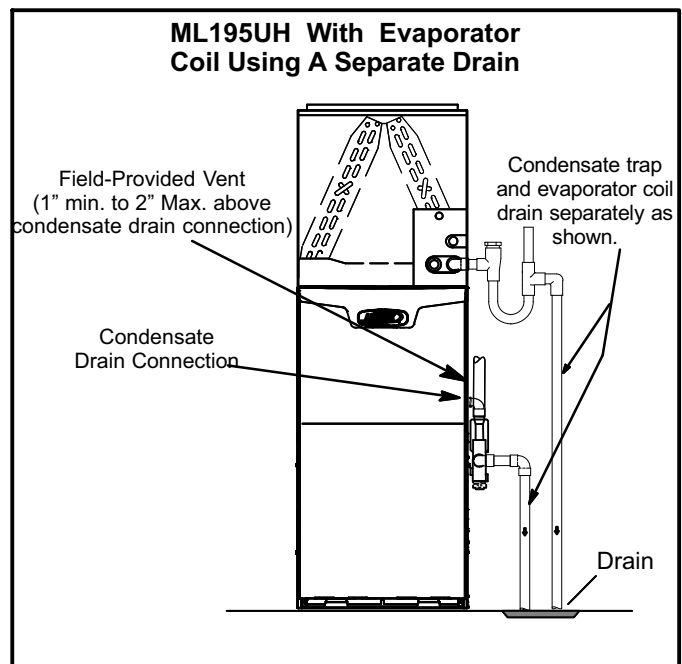
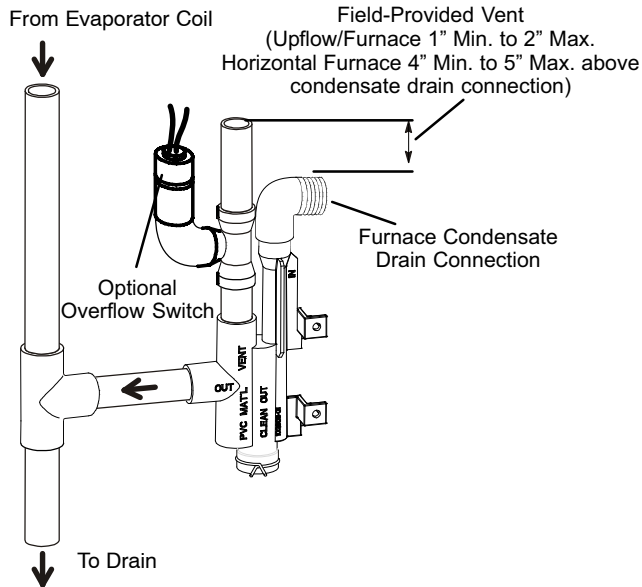

FIGURE 58
FIGURE 60
- 5 - Figures 58 and 59 show the furnace and evaporator coil using a separate drain. If necessary the condensate line from the furnace and evaporator coil can drain together. See figures 60, 61 and 62.